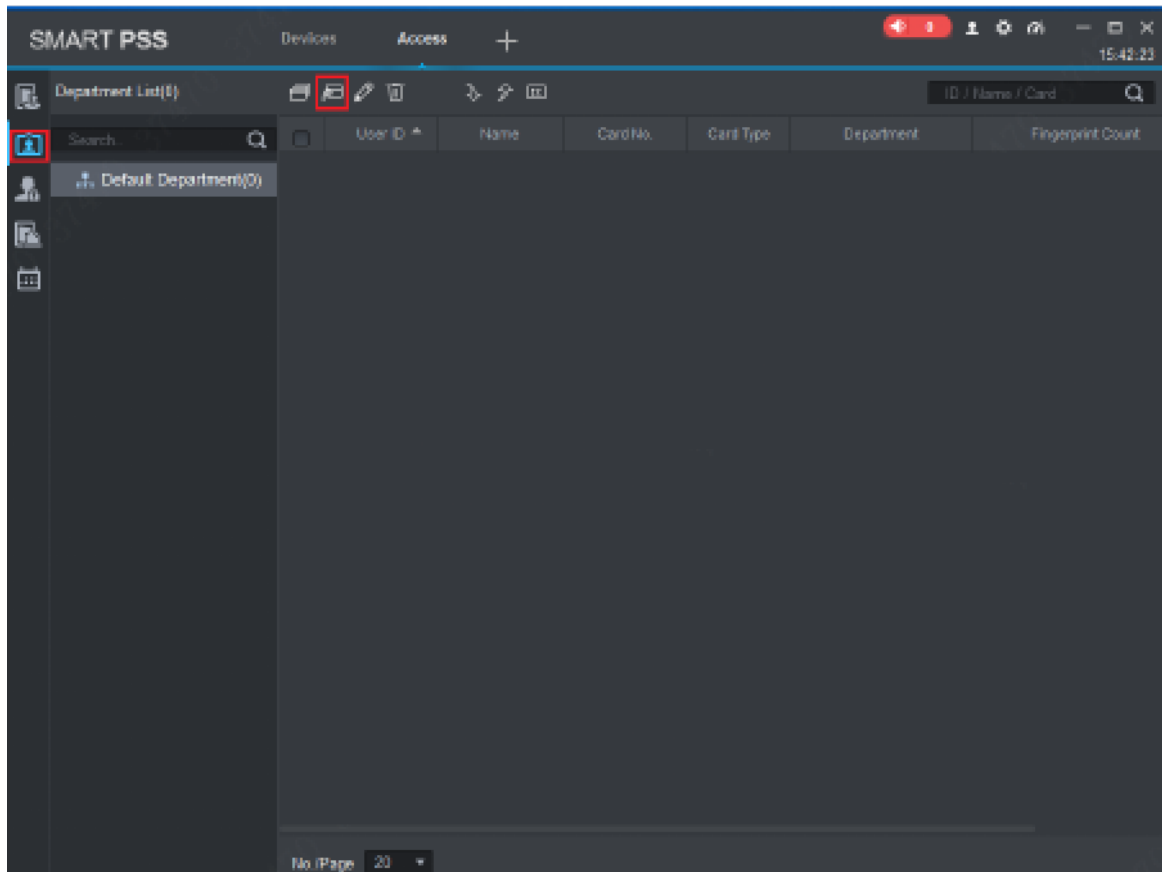
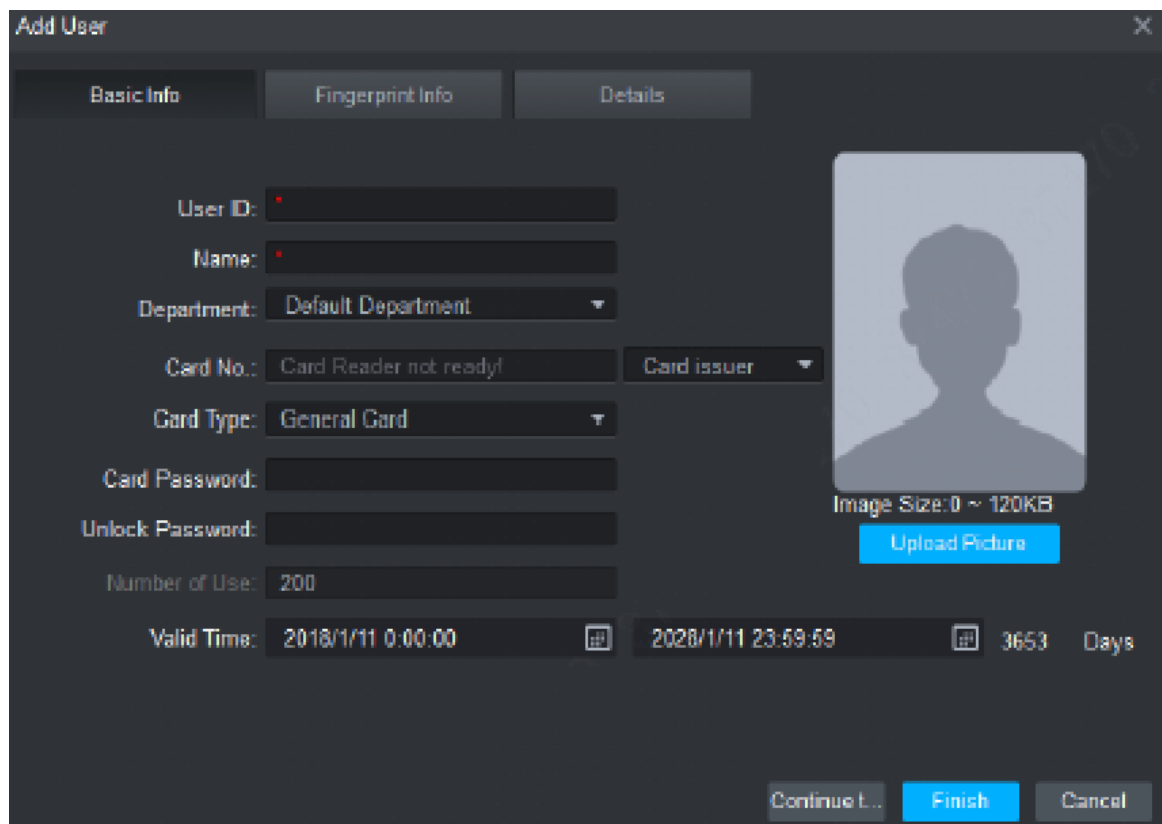

Figure 4-11
Figure 4-12
- Step 1 In “Access” interface, click , and then click , as shown in Figure 4-11. The system pops up “Add User” dialog box, as shown in Figure 4-12.